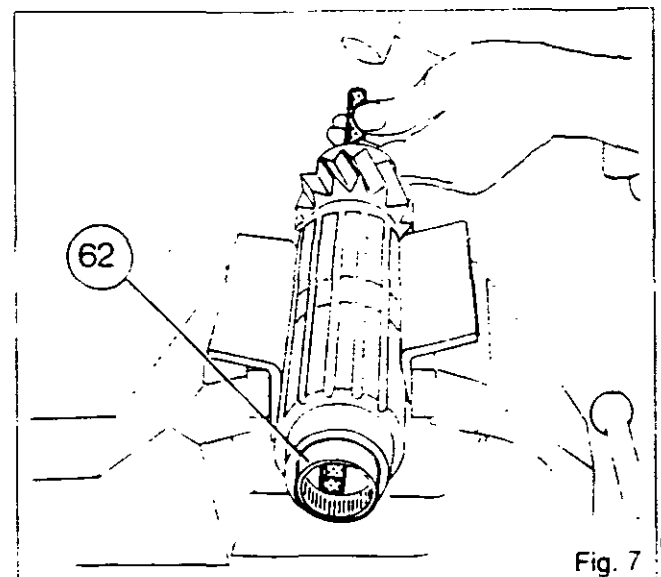

Fig. 7
- 15. a) Take off the 1st speed gear (60) and the 2nd speed gear (59).
b) Take off the 1st speed gear (60), shims [58], and the 2nd speed gear (59).
- 16. a) Remove circlips (58) and (57).
b) Remove spacer (57).
- 4th speed (56) (4 x 2 gearbox)
- 3rd speed (55) (4 x 2 gearbox)
- 3rd speed (56) (4 x 4 gearbox)
- 4th speed (55) (4 x 4 gearbox)
- 19. Drive out needle-roller bearing (62) (Fig.7) and discard it.